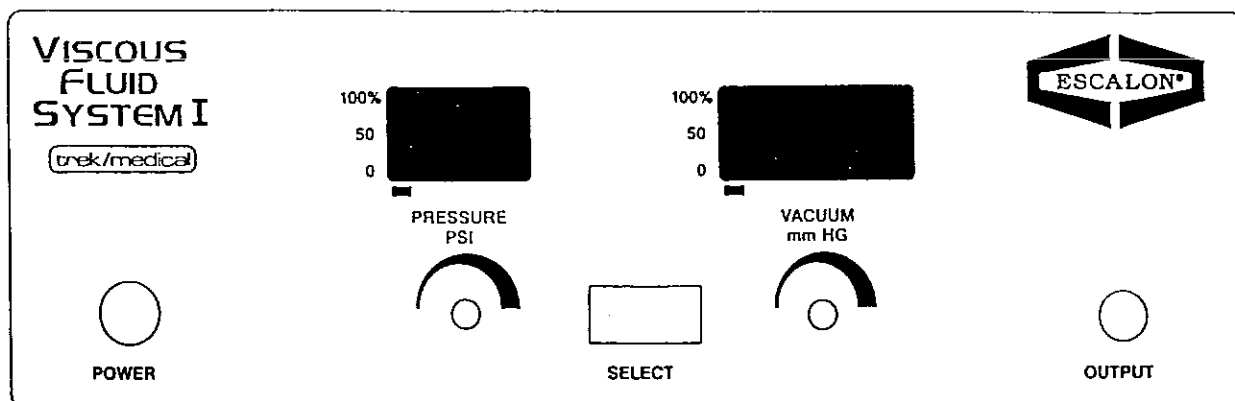

Figure 1
## FRONT PANEL *(see Figure 1)*
### ***Pressure:*** (see to Figure 1)
***Vacuum:*** (see to Figure 1)